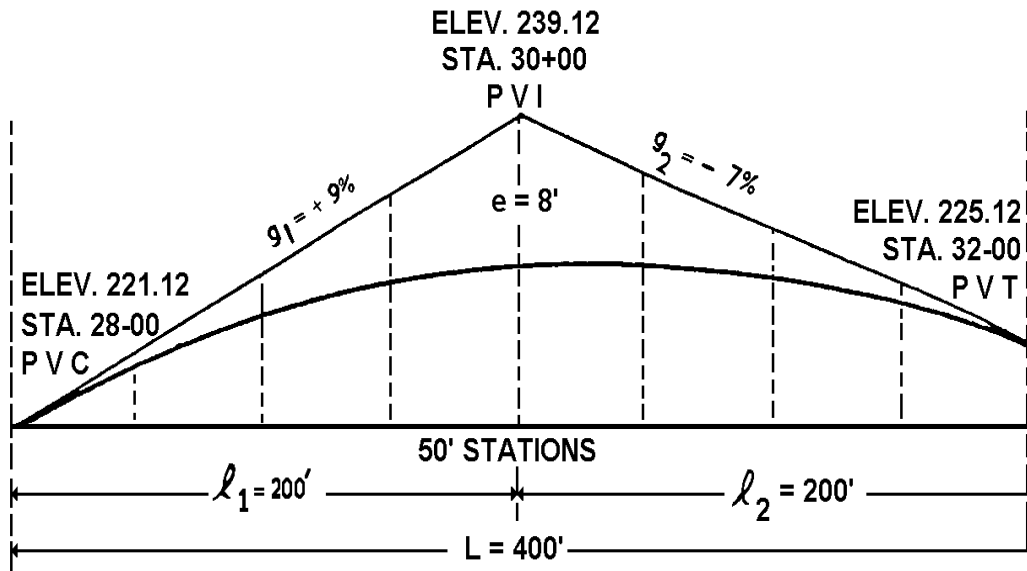

Figure 4
- I. Given figure 4, describe the points for a vertical Curve.